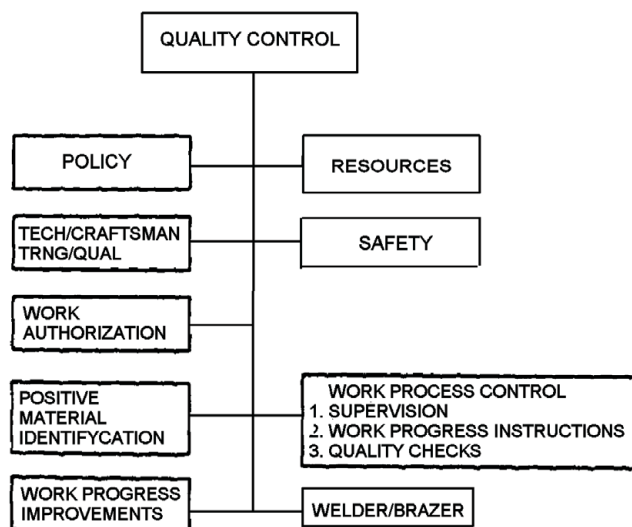

Figure 6-18.—Quality Control diagram.
Quality Control (QC) (fig. 6-18) includes but is not limited to the following major elements: